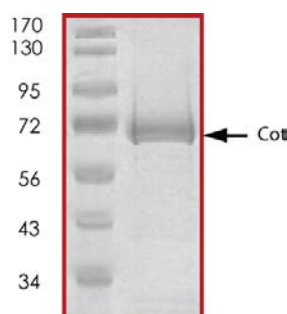

Figure 1: The approximate molecular weight is 70 kDa and the purity is > 90%.
- Molecular Mass** ♦ The approximate molecular weight is 70 kDa (see Figure 1 below).
- Purity** ♦ The purity was determined to be > 90% by densitometry (see Figure 1 below).